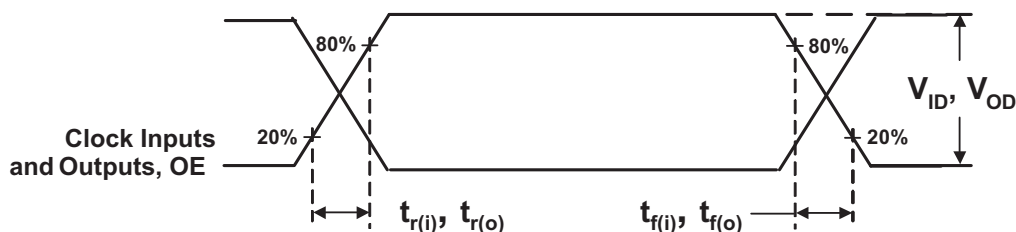

Figure 9. Input and Output Slew Rates
(1) V_{OD} is the magnitude of the difference between the true and complimentary outputs. See Figure 9 for a definition.
(2) Total I_{DD} = I_{DDQ} + I_{ADD} = f_{CK} × C_{PD} × V_{DDQ}, solving for C_{PD} = (I_{DDQ} + I_{ADD})/(f_{CK} × V_{DDQ}) where f_{CK} is the input frequency, V_{DDQ} is the power supply, and C_{PD} is the power dissipation capacitance.